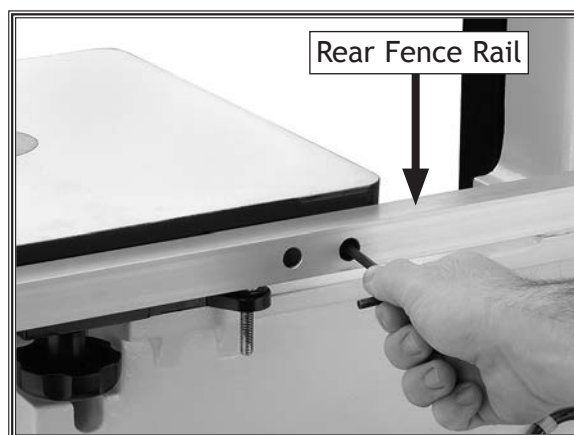

Figure 10. Installing rear fence rail.
10. Attach the smaller rear fence rail to the rear of the table with (2) 1/4"-20 x 5/8" cap screws, as shown in **Figure 10**.